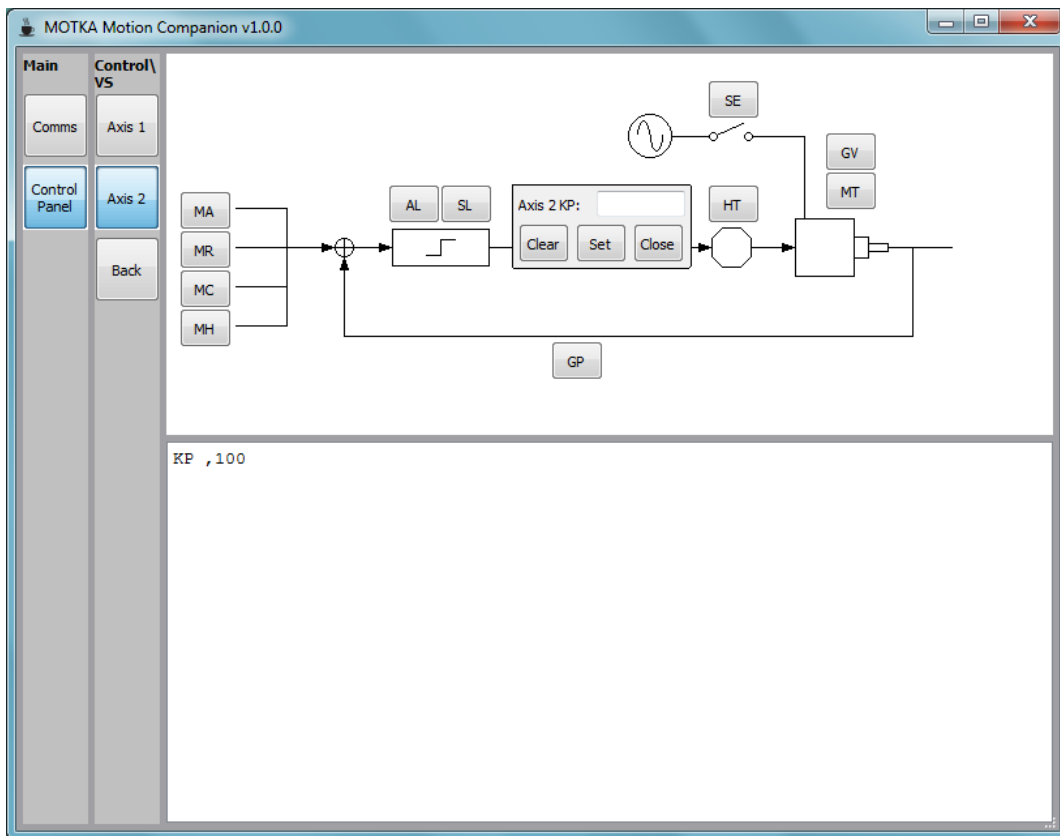

Figure 7: Generate the Proportional Gain (KP) command for Axis 2
- Select the *KP* button, enter 100 in the edit field. The *KP ,100* command will be created in the *Command Pane* (see Figure 7) once we *Set* it. Close the dialog box.